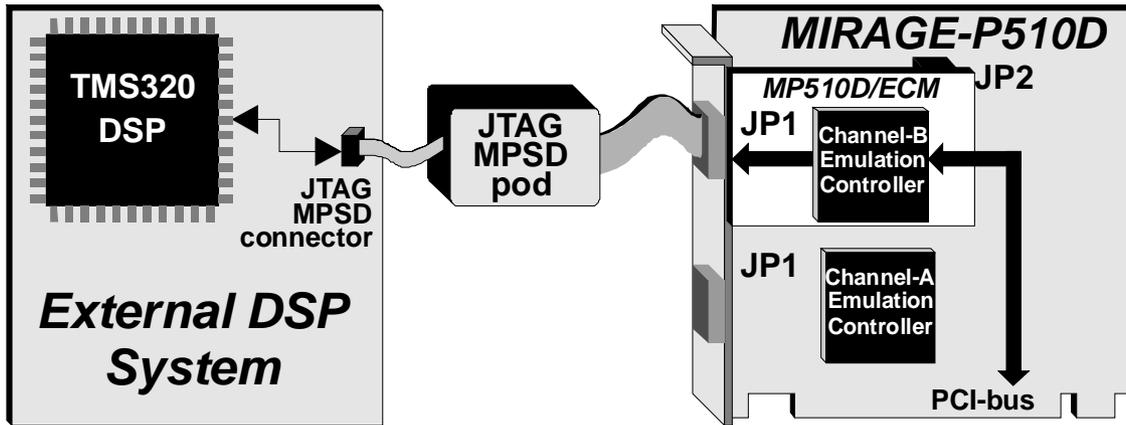

Fig.2-4. Emulation control of target TMS320 DSP via on-board emulation controller of MP510D/ECM emulator expansion DCM.
*MP510D/ECM* emulator expansion DCM plugs into on-board JP2 expansion site of *MIRAGE-P510D* emulator mainboard. On-board universal MPSD/JTAG emulation controller of *MP510D/ECM* emulator expansion DCM provides emulation control of target TMS320 DSP (fig.2-4) with either MPSD or JTAG DSP on-chip scan-path emulation interface via external MPSD or JTAG pod correspondingly (see corresponding section below in this chapter for detail information about JTAG and MPSD pods), which connects to *MP510D/ECM* on-board JP1 connector (refer to fig.1-1 and fig.2-4). This comes as standard single-channel configuration of *MIRAGE-P510D* emulator.
MPSD pod connects to on-board emulation controllers of *MIRAGE-P510D* emulator mainboard and *MP510D/ECM* emulator expansion DCM via the 20-pin connector at the end of the pod's shielded cable via the mounting bracket of *MIRAGE-P510D* mainboard. It plugs into JP1 on-board connector of *MIRAGE-P510D* emulator mainboard (fig.2-2) or into JP1 on-board connector of *MP510D/ECM* emulator expansion DCM (fig.2-4).
emulator mainboard (fig.2-2) or into JP1 on-board connector of *MP510D/ECM* emulator expansion DCM (fig.2-4).